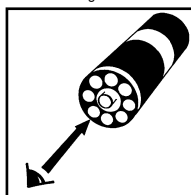

Figure 3
- a. **Low Range Comparator (fig. 3):** Place the ampoule, flat end first, into the comparator. Hold the comparator up toward a source of light and view from the bottom. Rotate the comparator until the best color match is found.